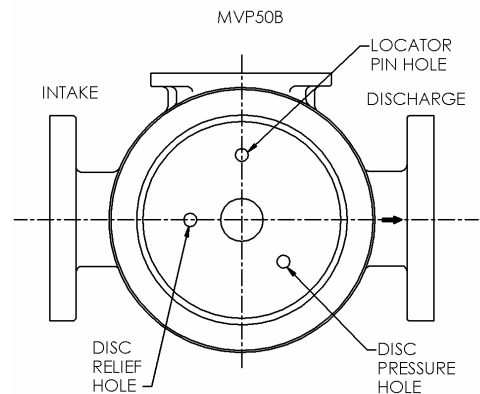

Figure 5 – MVP Models
For MVP Models start the liner (41) into the pump casing (12) with the liner keyway aligned with the setscrew (74) in the casing, and the cast word "INTAKE" on the liner towards the intake port of the pump. Use a rubber mallet to uniformly tap around the edge of the liner to fully install in the casing. Install the disc (71) on the outboard end of the casing with the disc holes positioned as shown in Figure 5. The dowel locator pin hole in the disc should be in the 12 o'clock position.
3. Install a new head seal ring / O-ring (72) in the groove provided between the disc and the cylinder.